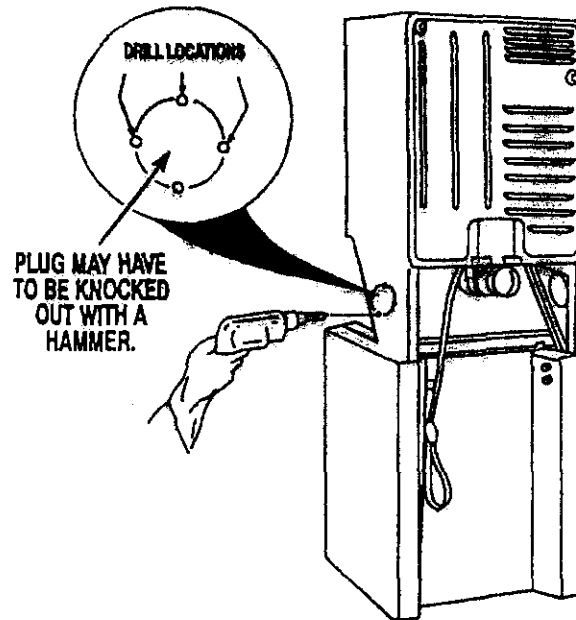

Fig. 6
1. Remove left or right side panel knockout by drilling four (4)  $\frac{1}{4}$ " holes at the drill locations (dimples) shown and knock out plug. (Fig. 6) Use a file and remove the small burrs in the hole created after the knockout is removed.